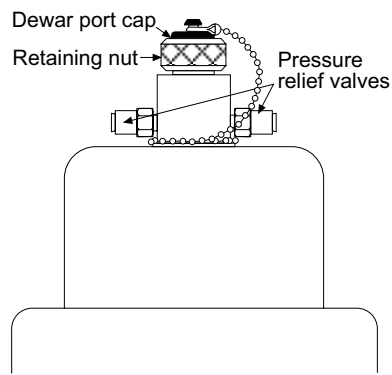

Figure 28. Dewar Ports and Valves
1. After the camera has been properly evacuated, loosen the retaining nut (Figure 28) a few turns, then remove the LN Dewar port cap by pulling it straight out.
Note: The pressure relief valves (Figure 28) underneath the protective covering will occasionally emit a plume of N_2 gas and mist. *Continuous* hissing indicates that the vacuum in the Dewar jacket is probably inadequate. In this case, *first remove all LN from the Dewar*, then reconnect the camera to the vacuum pump.